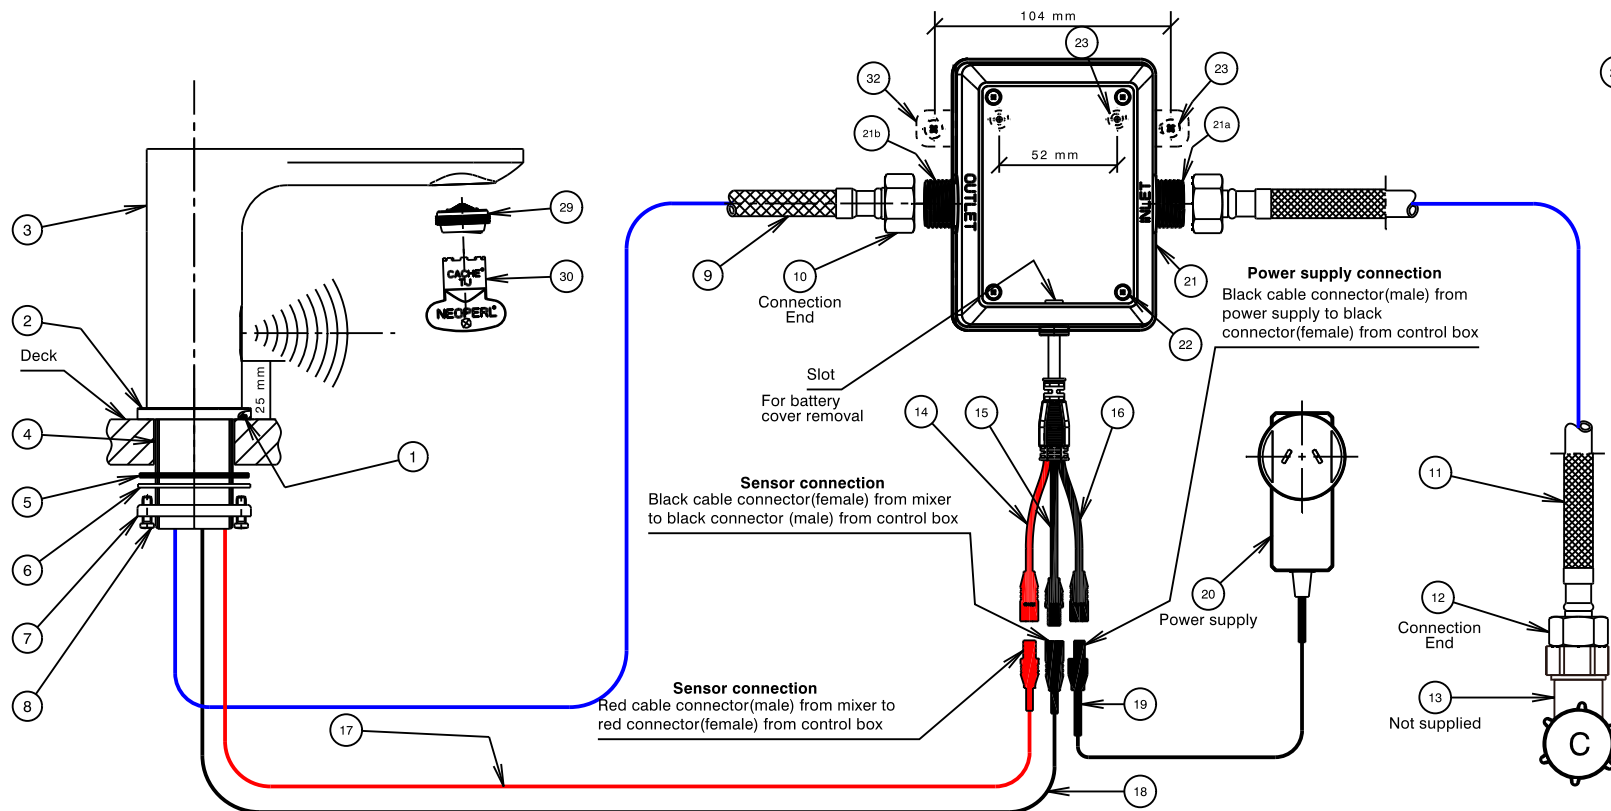

Fig.1 - Sensor activated "Cold" water installation
- 1) Ensure 'O'ring (1) is fitted into groove in base ring (2).
- 2) Insert the outlet connection end (10) of flexible tail (9), along with red sensor cable (17) and black sensor cable (18) through the hole in the deck. Insert threaded tube (4) of outlet into deck hole, orientate mixer as required, fit flat seal (5) followed by washer (6) over threaded tube (4) of outlet as shown in Fig. 1. Screw clamp ring (7) onto threaded tube (4) until it contacts washer (6) & the flat seal (5) has contacted the underside of the deck. Tighten two screws (8) equally until outlet assembly is clamped firmly to the deck. DO NOT OVERTIGHTEN.
a) Sensor activated 'Cold' water (Fig.1)-